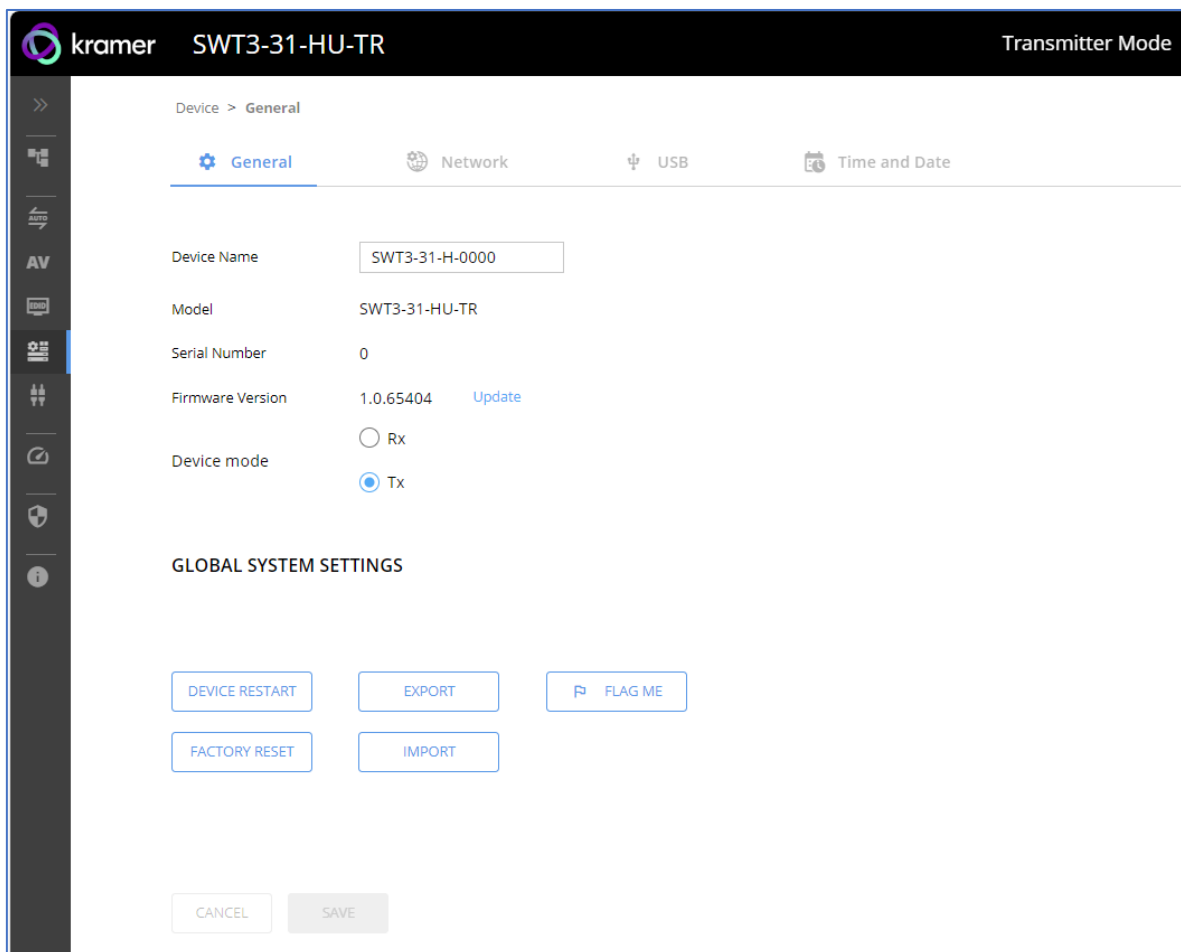

Figure 22: Device &gt; General Page
1. Go to the **Device > General** page (Figure 22).
- Click **DEVICE RESTART** on the **Device > General** page (Figure 22).
- Click **FACTORY RESET** on the **Device > General** page (Figure 22).
1. Go to the **Device** > **General** page (Figure 22).